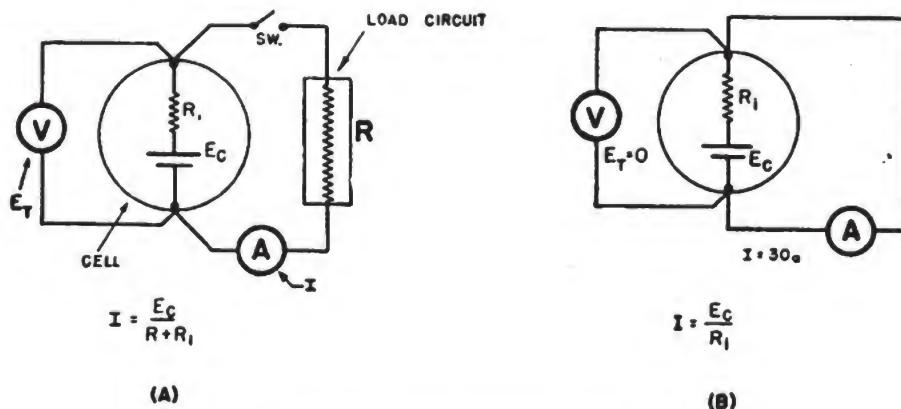

Figure 66.—Cell terminal voltage.
In (A) of figure 66, you have a 1.5-volt dry cell connected in a simple circuit. When the switch is open, the cell delivers no current, and the terminal voltage ( $E_t$ )—that is, the voltage across the terminals—will be the same as the cell voltage ( $E_c$ ). The terminal voltage is also known as the **OPEN-CIRCUIT** or **NO-LOAD VOLTAGE** of the cells.
The fall in terminal voltage sets a definite limit to the amount of current you can draw in the circuit. If you reduce the load resistance to zero, as you see in (B) of figure 66, the cell is short-circuited and maximum current flows.